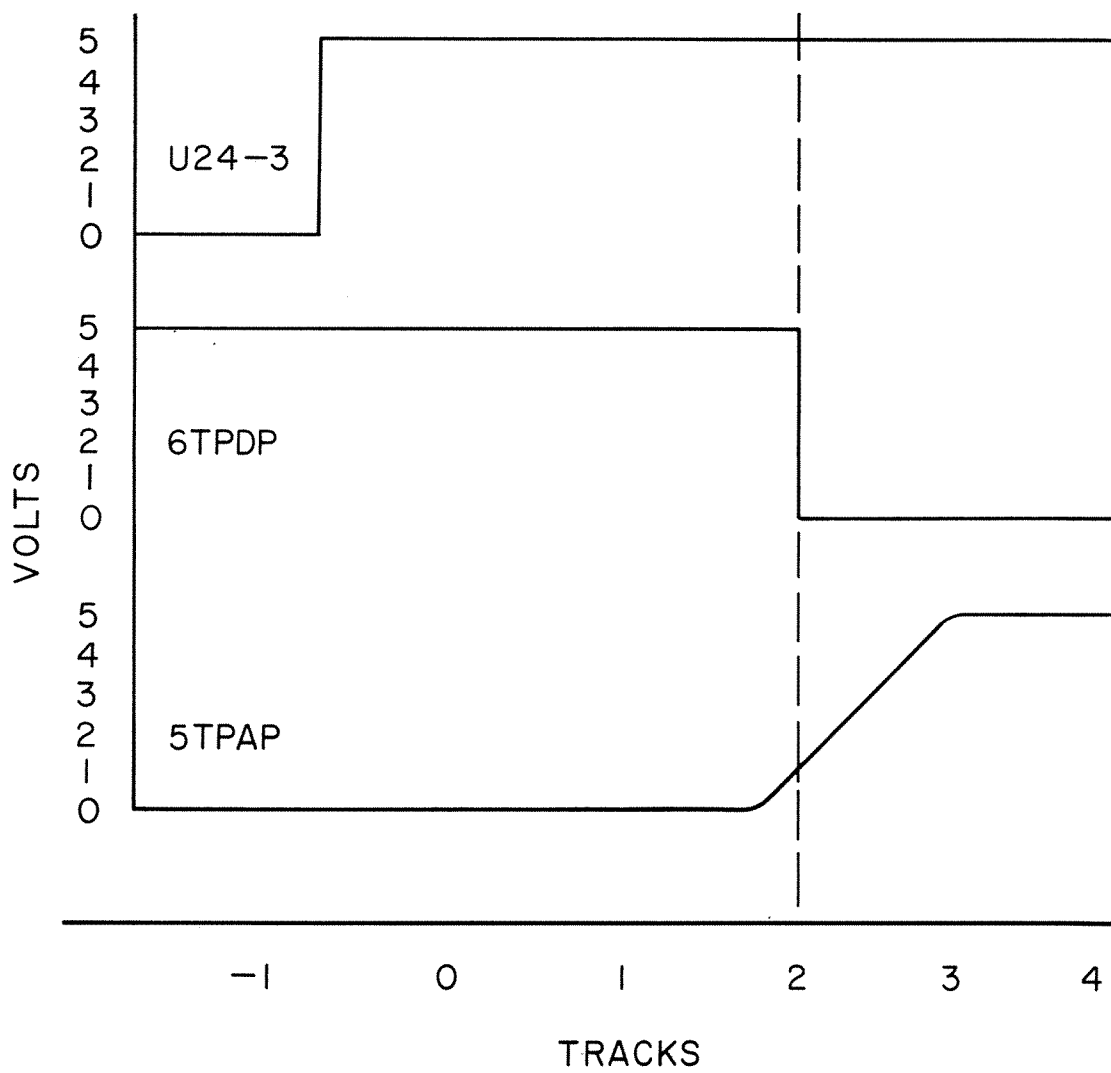

FIGURE 4-6
3. Verify that Test Point 6 changes logic level at Track 2, plus or minus one track (see Figure 4-6).